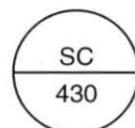

Figure 67. Instrument Tag
6. Determine the measured variable and function of the device using the instrument tag in figure 67.